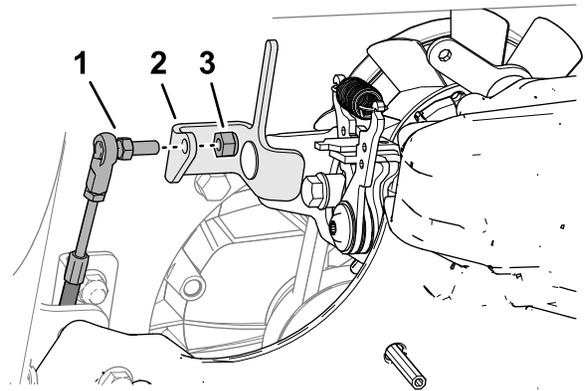

Figure 69
1. Align the fitting of the traction control cable through the hole in the transaxle-control bracket (Figure 69).